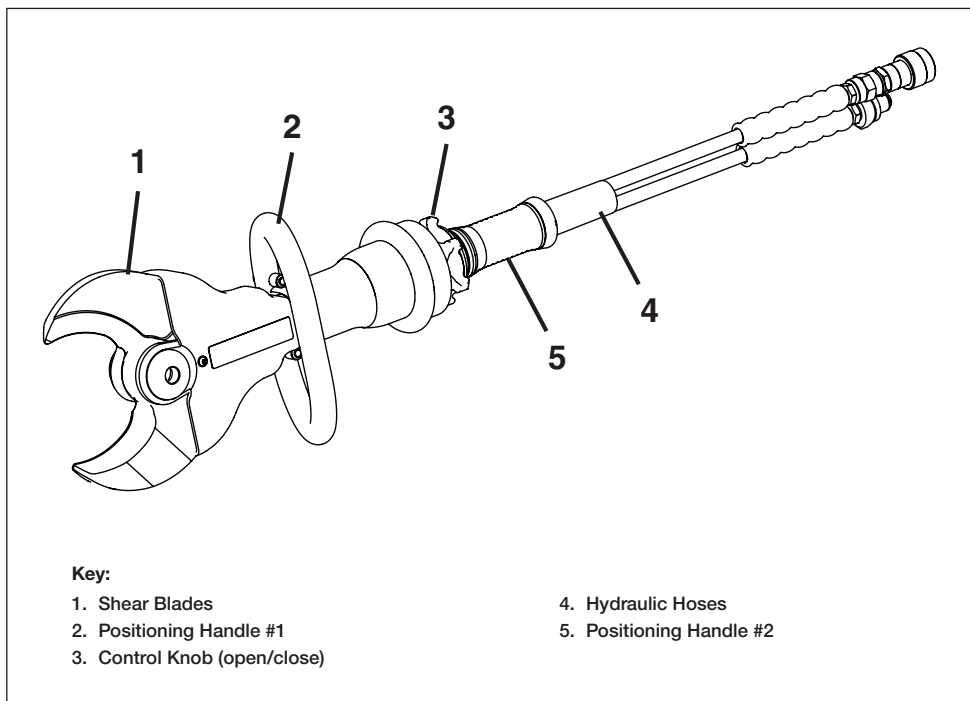

Figure 1, Features and Components
See Figure 1 for a description of cutter major features and typical items included in the shipment. Refer to Section 2.0 for cutter maximum capacities, specifications and dimensions.
- Position the cutter as needed using the positioning handles located at the side and rear of the cutter hydraulic cylinder. See Figure 1.